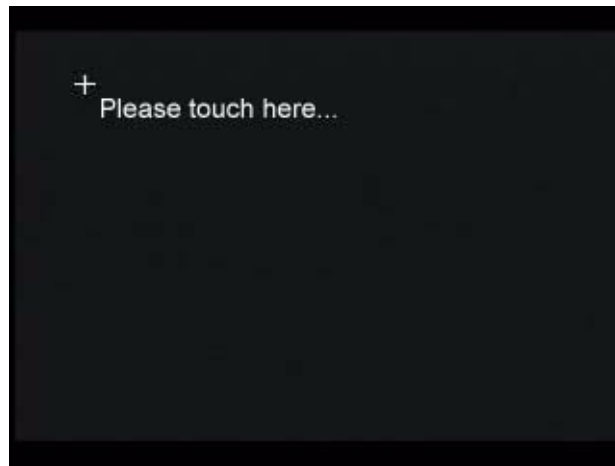

Figure 8.4 First Calibration Screen
- 7 Select or tap **Yes**. The first calibration screen will appear. (Figure 8.4)
- 12 If the calibration is not successful you must repeat it. Tap the screen at any location to return to the first calibration step. (Figure 8.4)